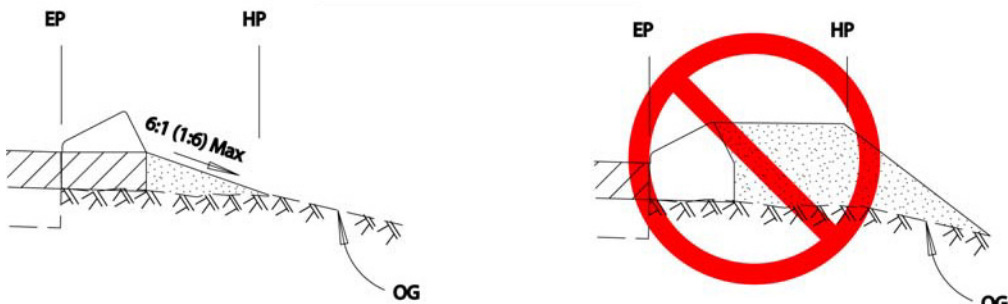

Figure 4
- c. For backfill behind dikes (See Figure 4)